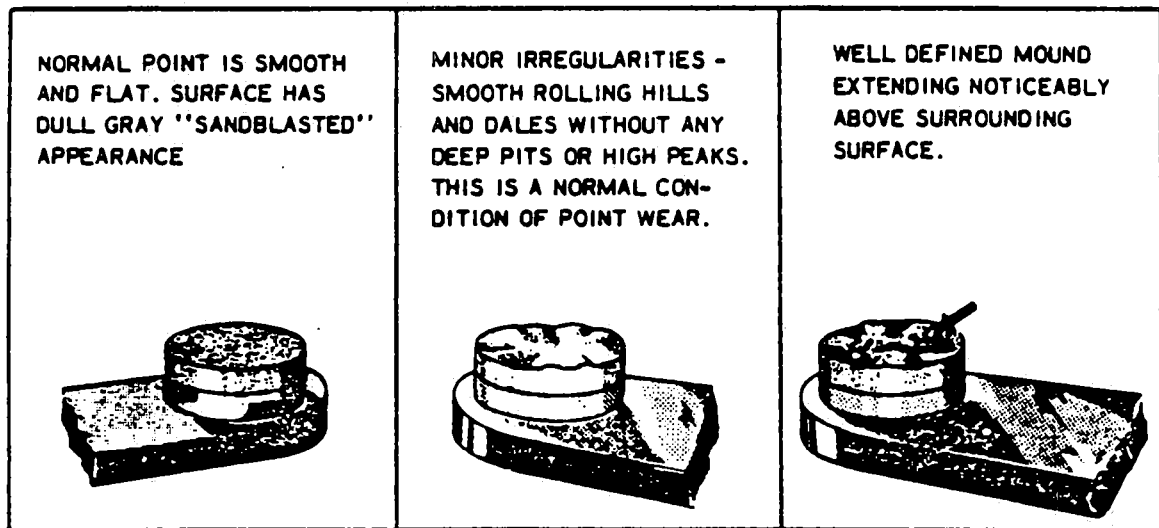

Figure 8-9. Magneto Breaker Points
e. Examine the breaker points for excessive wear or burning. Figure 8-9 shows how the average breaker point will look when surfaces are separated for inspection. Desired contact surfaces have a dull gray, sand-blasted (almost rough) or frosted appearance over the area where electrical contact is made. This means that points are worn in and mated to each other, thereby providing the best possible electrical contact and highest efficiency of performance.
f. Minor irregularities or roughness of point surfaces are not harmful (Refer to Figure 8-9 center). Neither are small pits or mounds, if not too pronounced. If there is a possibility of pit becoming deep enough to penetrate pad, Figure 8-9 right, reject breaker assembly.